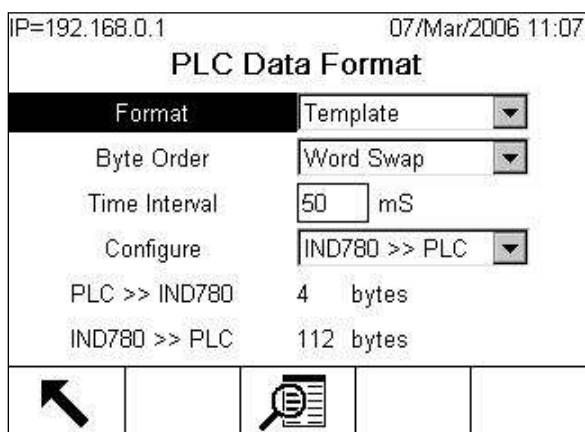

Figure 5-9: PLC Data Format Screen
1. In setup, select **Communication > PLC Interface > Data Format**. Figure 5-9 shows the screen with Template selected as the format, revealing the Time Interval, Configure, and directional displays. When Application format is selected, only the Format box appears on this screen.
6. The bottom of this screen (Figure 5-9) displays the number of bytes that will be sent by the IND780 and the number of bytes expected from the PLC.